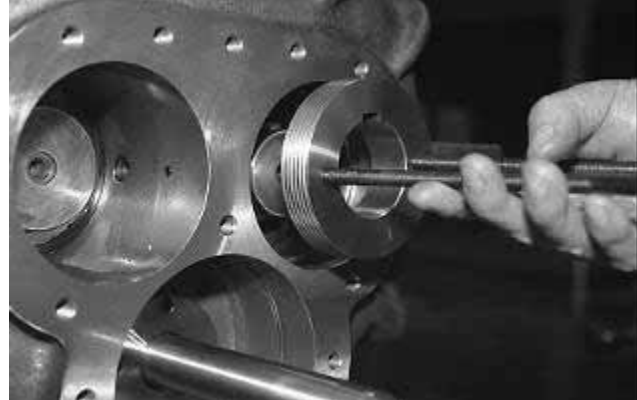
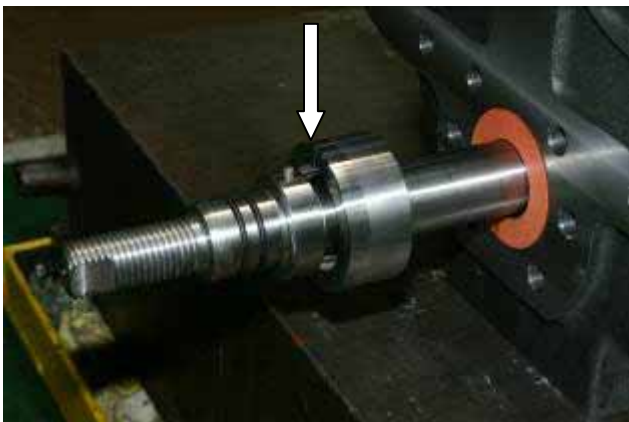

Fig. 3-101 Installing the Balance Piston
Fig. 3-102 Vi Adjusting Rod (320 Models)
- g) Hold the balance piston with the eye bolts screwed into the holes in the piston. Install the balance piston by pressing it onto the male rotor shaft while aligning its keyway with the key on the shaft (see Fig. 3-101). Retain the piston with the stop ring.
(6) Bearing Cover
- a) Fit the thrust washer (P/N 449) on the Vi adjusting rod (see Fig. 3-103). There is a gland for the Vi adjusting rod on the 320 models (see Fig. 3-102).